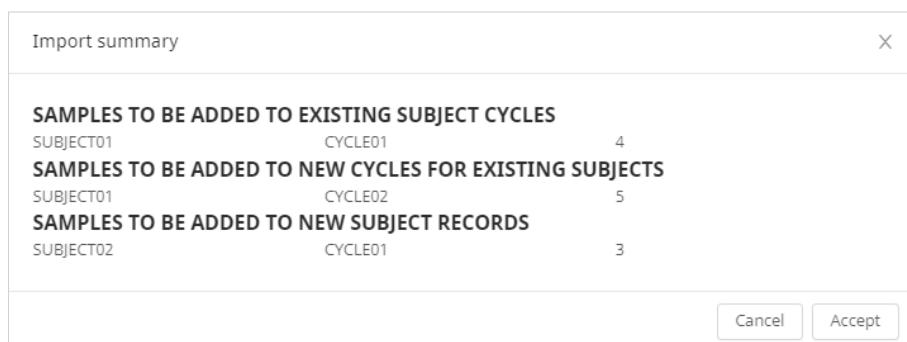

Figure 5: Sample Accessioning import dialogue
1. Imported data is validated against existing Subject and Cycle records and the format requirements. A summary table is shown confirming if any Subject or Cycle matches have been found, and the number of samples to be added to each Subject-Cycle (Figure 5).